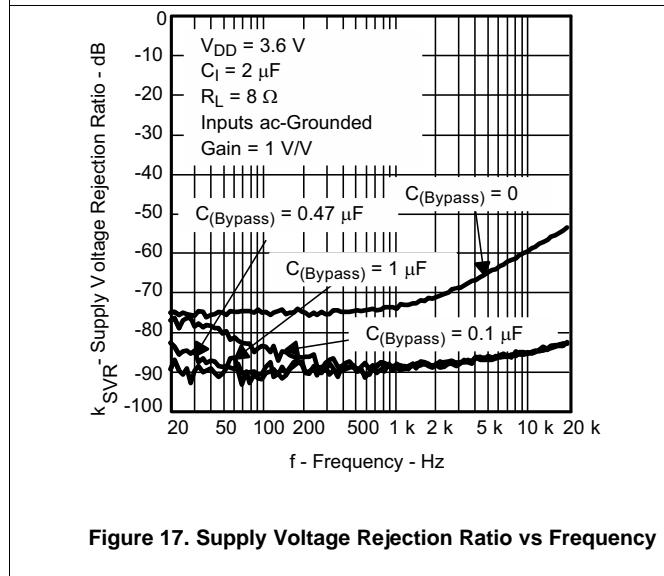

Figure 17. Supply Voltage Rejection Ratio vs Frequency
- Mid-supply bypass capacitor, $C_{(BYPASS)}$, not required: The fully differential amplifier does not require a bypass capacitor. This is because any shift in the mid-supply affects both positive and negative channels equally and cancels at the differential output. However, removing the bypass capacitor slightly worsens power supply rejection ratio (k_{SVR}), but a slight decrease of k_{SVR} may be acceptable when an additional component can be eliminated (see Figure 17).